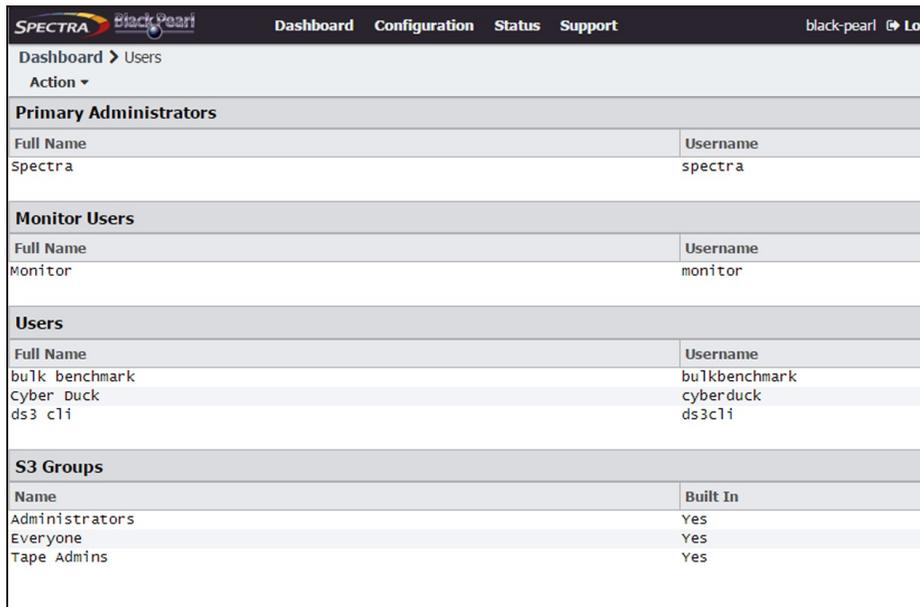

Figure 37 The Users screen.
1. From the menu bar, select **Configuration > Users**. The Users screen displays (see Figure 37 on page 91).